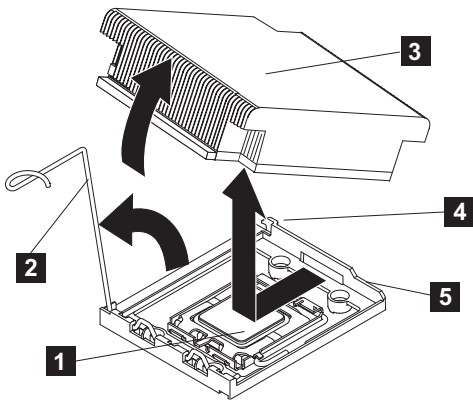

Figure 244. Removing the heat sink from the SAN Volume Controller 2145-CF8 microprocessor
8. Disconnect any cables that impede access to the heat sink ( **3** in Figure 244) and the microprocessor ( **1** ).